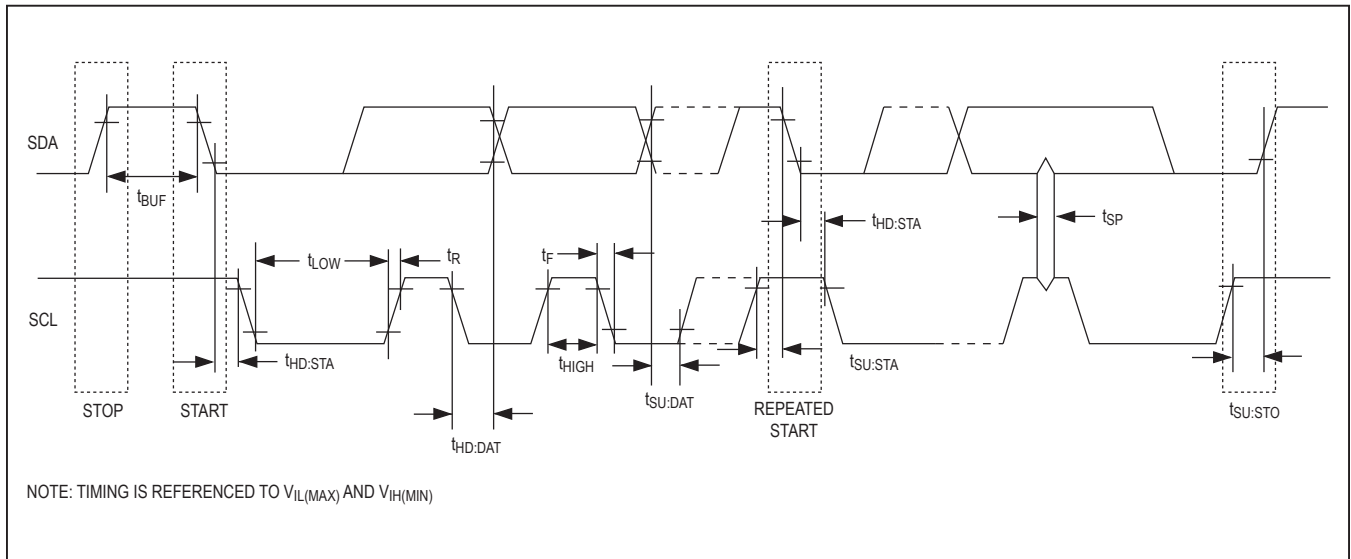

Figure 5. I2C Timing Diagram
**Bit Write:** Transitions of SDA must occur during the low state of SCL. The data on SDA must remain valid and unchanged during the entire high pulse of SCL plus the setup and hold-time requirements (see Figure 5). Data is shifted into the device during the rising edge of the SCL.
**Bit Read:** At the end a write operation, the master must release the SDA bus line for the proper amount of setup time (see Figure 5) before the next rising edge of SCL during a bit read. The device shifts out each bit of data on SDA at the falling edge of the previous SCL pulse and the data bit is valid at the rising edge of the current SCL pulse. Remember that the master generates all SCL clock pulses including when it is reading bits from the slave.
**Acknowledgement (ACK and NACK):** An Acknowledgement (ACK) or Not Acknowledge (NACK) is always the 9th bit transmitted during a byte transfer. The device receiving data (the master during a read or the slave during a write operation) performs an ACK by transmitting a zero during the 9th bit. A device performs a NACK by transmitting a one during the 9th bit. Timing (Figure 5) for the ACK and NACK is identical to all other bit writes. An ACK is the acknowledgment that the device is properly receiving data. A NACK is used to terminate a read sequence or as an indication that the device is not receiving data.